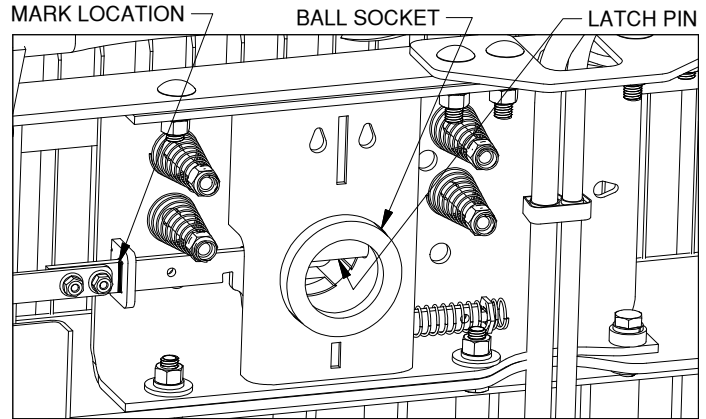

Figure G1: View looking up under bed.
8. **Check latch pin engagement.** When installed properly, the latch pin should pass through both sides of the ball socket. With the ball removed, push handle toward the rear of the truck until the handle retracts and the latch pin engages. Visually inspect the ball socket and verify that the latch pin has passed completely through both walls of the socket. Make a mark on the latching mechanism where indicated, in Figure G1, to show where the latching mechanism should be when the pin is correctly positioned in the ball socket. Retract the pin, replace the ball, and re-engage the pin. Check the marked location on the latching mechanism. If the mark is in the same location as when the mark was made, then the latch pin has gone completely through the ball socket.